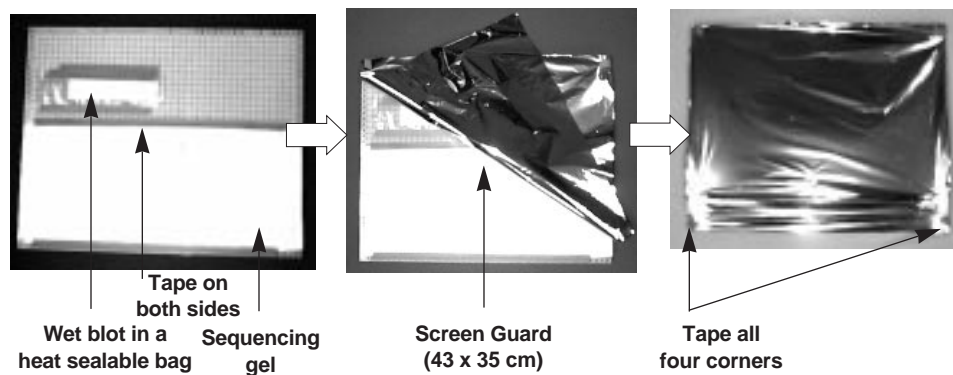

Fig. 4.1. Preparing Samples for Exposure to an Imaging Screen.
4. Tape the sides of the sample securely onto the Loading Dock Exposure Pad (Figure 4.1). Make sure that the sample lies flat and has no folds or wrinkles. Wrinkles will prevent close contact with the screen and will degrade the resolution of the image.
5. Cover the entire exposure pad with a sheet of Screen-Guard film - 35 x 43 cm (catalog number 170-7484) (Figure 4.1). Tape the Screen-Guard to the Exposure Pad at four corners. **DO NOT USE SMALL-SIZED SCREEN-GUARD ON THE LARGE PAD.**